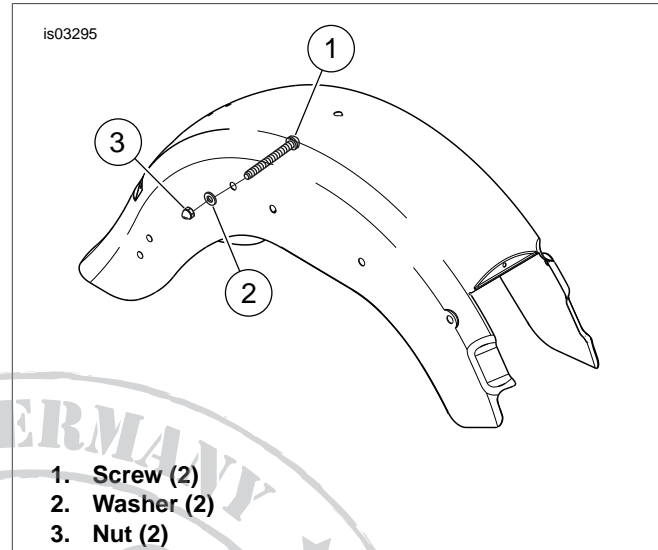

Figure 2. Install Hardware (FLST)
- See Figure 2. Install saddlebag using screw (from wide tire kit) (1), washer (2) and nut (3). The screws are installed from inside to outside of fender.